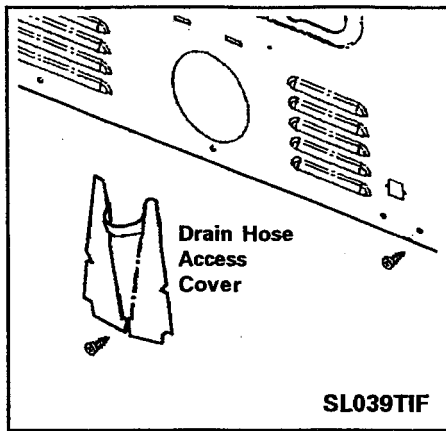

Figure 2-39
3. Remove the ¼" hex-head screw securing the drain hose shield. Remove shield (*Figure 2-39*).